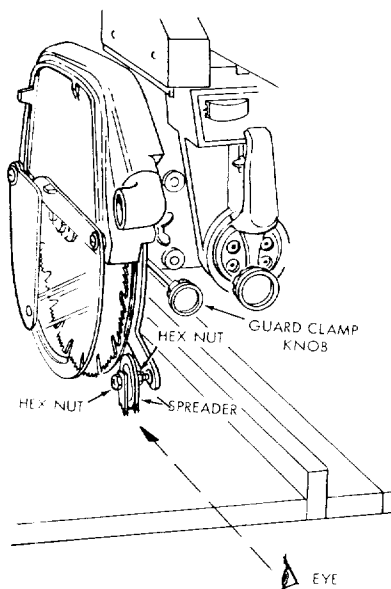
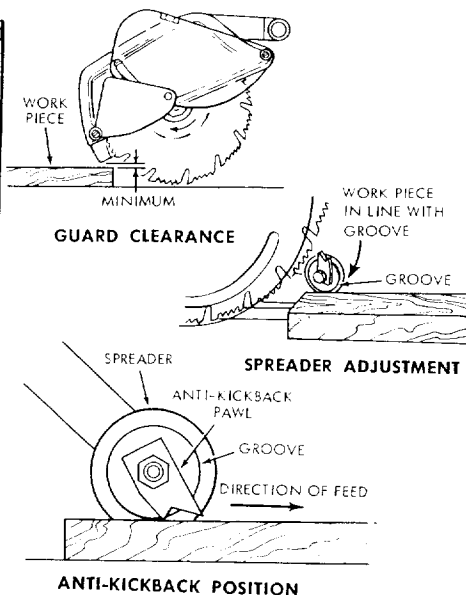

Figure 50
Figure 51
- b. Sight (visually) to check for proper alignment of spreader with saw blade, as shown in figure 50. If the spreader is not aligned, adjust it as follows:
- (1) Loosen two hex nuts, one on each side of spreader (figure 50).
- (2) Rotate hex nuts with fingers until the spreader is directly in line with saw blade.
- (3) Tighten both hex nuts firmly.
- e. Place the workpiece to be ripped in the position shown in figure 51 (top illustration).
- f. Loosen the guard clamp knob (figure 50) and rotate the guard so that it just clears the work-piece (figure 51). Tighten the guard clamp knob.
- g. Move the workpiece to the location shown in figure 51 (middle illustration).
surface of the workpiece. (See figure 51). Tighten the wing screw.